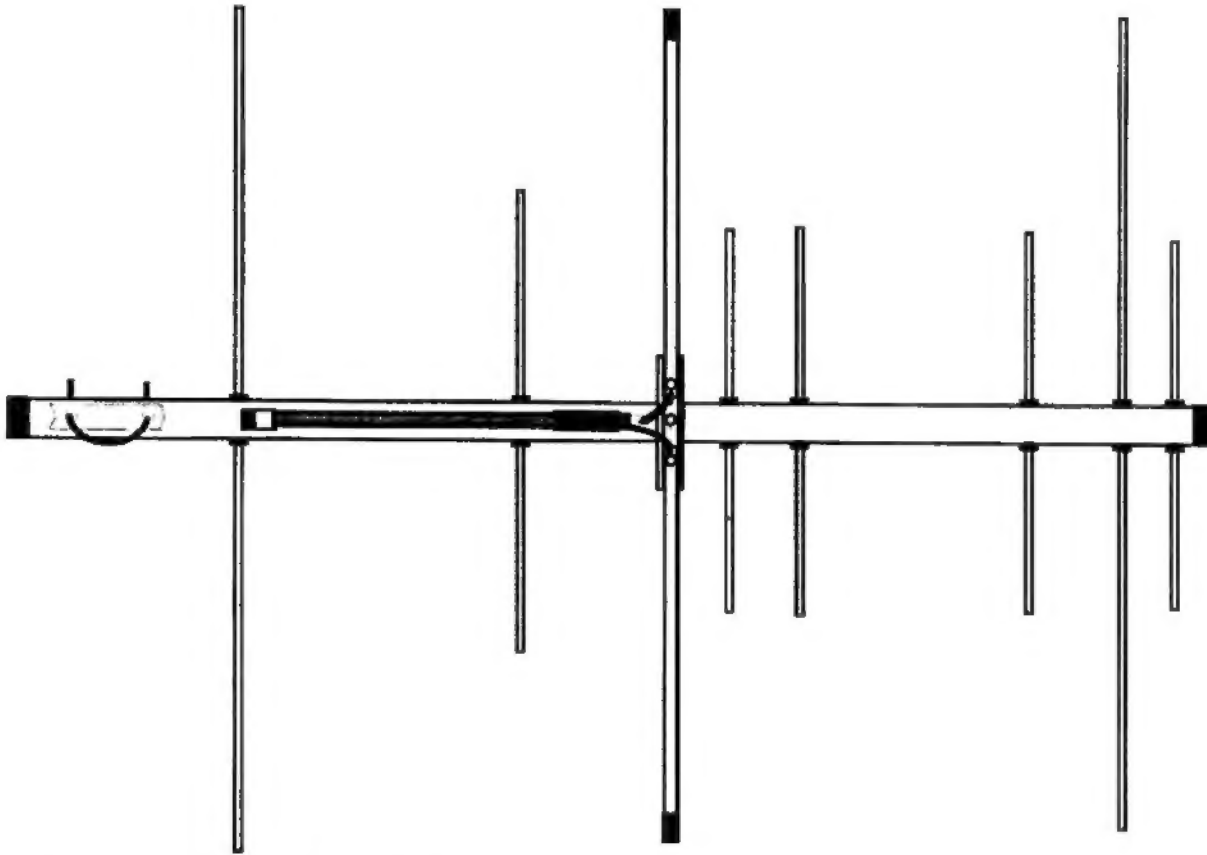

Figure 1 – MFJ-1760 Drawing
Refer to Figure 1 during assembly. Assembly consists of mounting the 2-Meter driven element insulating assembly, attaching the pigtail, mounting the 70cm and 2-meter elements, and then mounting the antenna to the mast.
- 3) Referring to Figure 1, assemble the 2-meter driven element insulating bracket to the hole in the boom. Use a 10-24 x 2" screw, nut, and lock washer.
- 6) Insert a push-nut on the 70 cm Reflector and slide it so that it is spaced exactly 6-1/16" from one end. Insert the 70 cm Reflector in the location shown in Figure 1, and slide on a second push-nut to hold it firmly in place.
- 7) Insert a push-nut on the 70 cm Director #1 and slide it so that it is spaced exactly 5-1/2" from one end. Insert the 70 cm Director #1 in the location shown in Figure 1, and slide on a second push-nut to hold it firmly in place.
- 8) Insert a push-nut on the 70 cm Director #2 and slide it so that it is spaced exactly 5-9/16" from one end. Insert the 70 cm Director #2 in the location shown in Figure 1, and slide on a second push-nut to hold it firmly in place.
- 9) Insert a push-nut on the 70 cm Director #3 and slide it so that it is spaced exactly 5-1/4" from one end. Insert the 70 cm Director #3 in the location shown in Figure 1, and slide on a second push-nut to hold it firmly in place.
- 10) Insert a push-nut on the 70 cm Director #4 and slide it so that it is spaced exactly 5-1/8" from one end. Insert the 70 cm Director #4 in the location shown in Figure 1, and slide on a second push-nut to hold it firmly in place.
- 11) Insert a push-nut on the 2-meter Reflector and slide it so that it is spaced exactly 19.5" from one end. Insert the 2-meter reflector in the location shown in Figure 1, and slide on a second push-nut to hold it firmly in place.
- 12) Insert a push-nut on the 2-meter Director and slide it so that it is spaced exactly 16-7/8" from one end. Insert the 2-meter Director in the location shown in Figure 1, and slide on a second push-nut to hold it firmly in place.